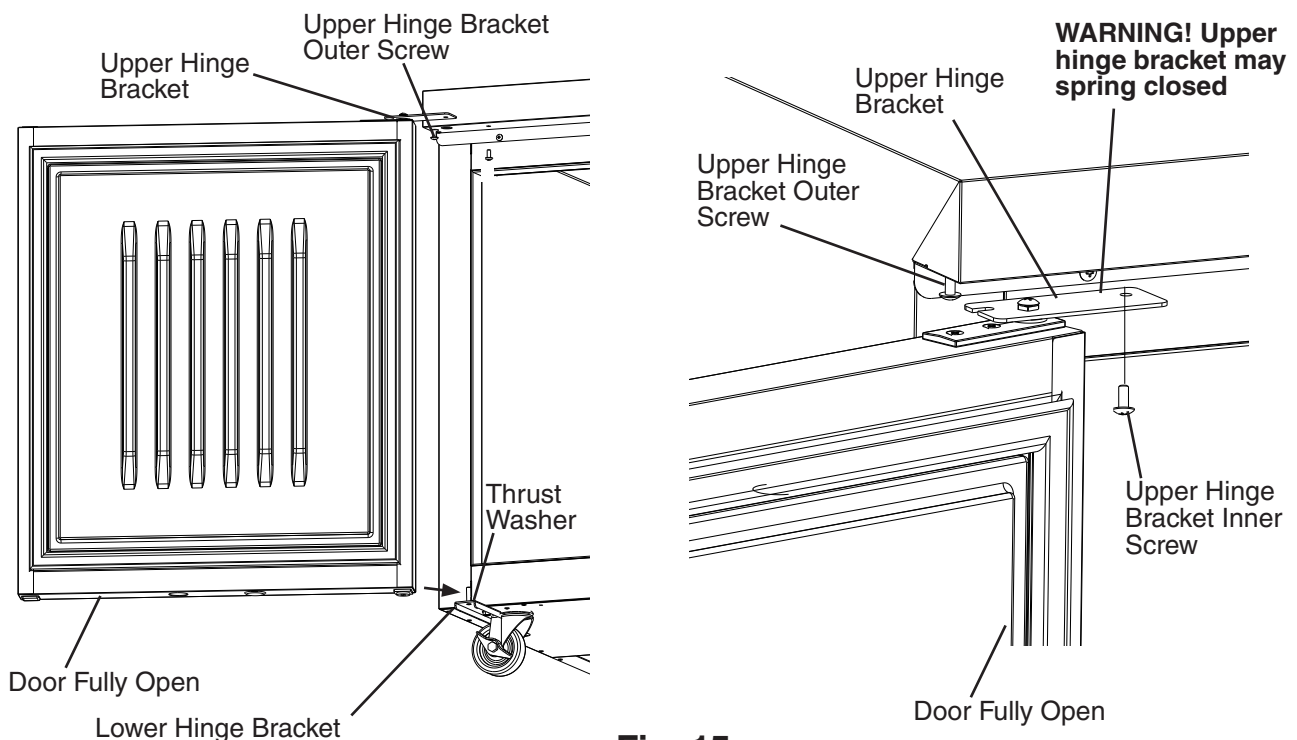

Fig. 15
- 14) Be sure the lower hinge bracket thrust washer is in place, then place the door on the lower hinge bracket in the fully open position. Slide the door upper hinge bracket outer slot onto the upper hinge bracket outer screw. See Fig. 15.